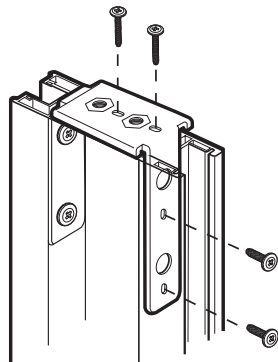

Figure 4
See Figure 4.
Insert two small screws into the oval holes on top of the U bracket and secure to the top of the stile. Take 2 small screws and secure into the oval holes in the outside of U bracket (G). This will be the outside channel of the stile. See Figure 4.